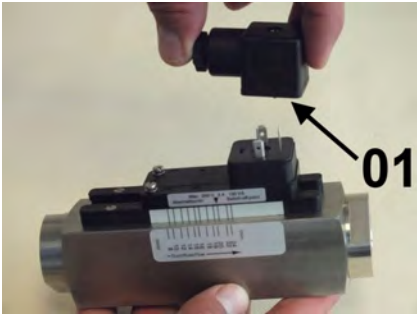

Fig. 62: Remove female socket
2. ➤ Remove the female socket and gasket (Fig. 62/01) by pulling upwards.